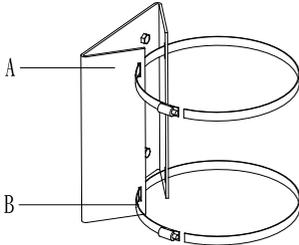

Figure 1
- (1) Thread the metal strap through the rectangular holes on the corner support (Figure 1).